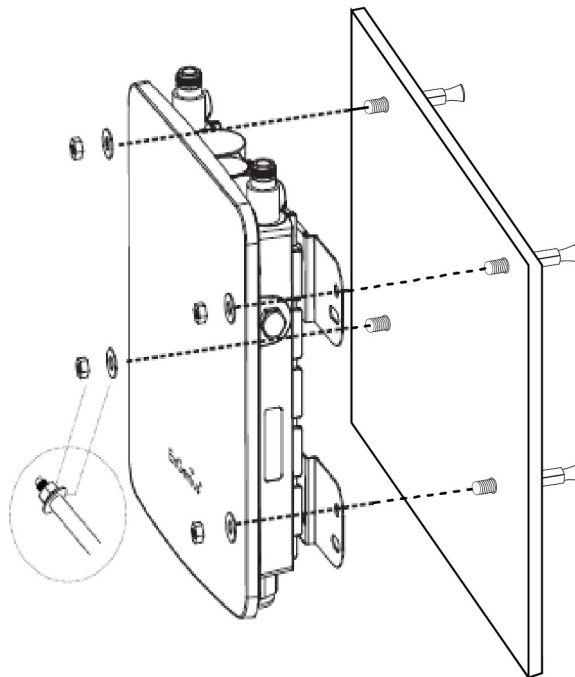

Figure 16. Installing to the Wall Using Bolts
6. Attach the nuts and washers to the bolts in the concrete wall to install the access point. See Figure 16.